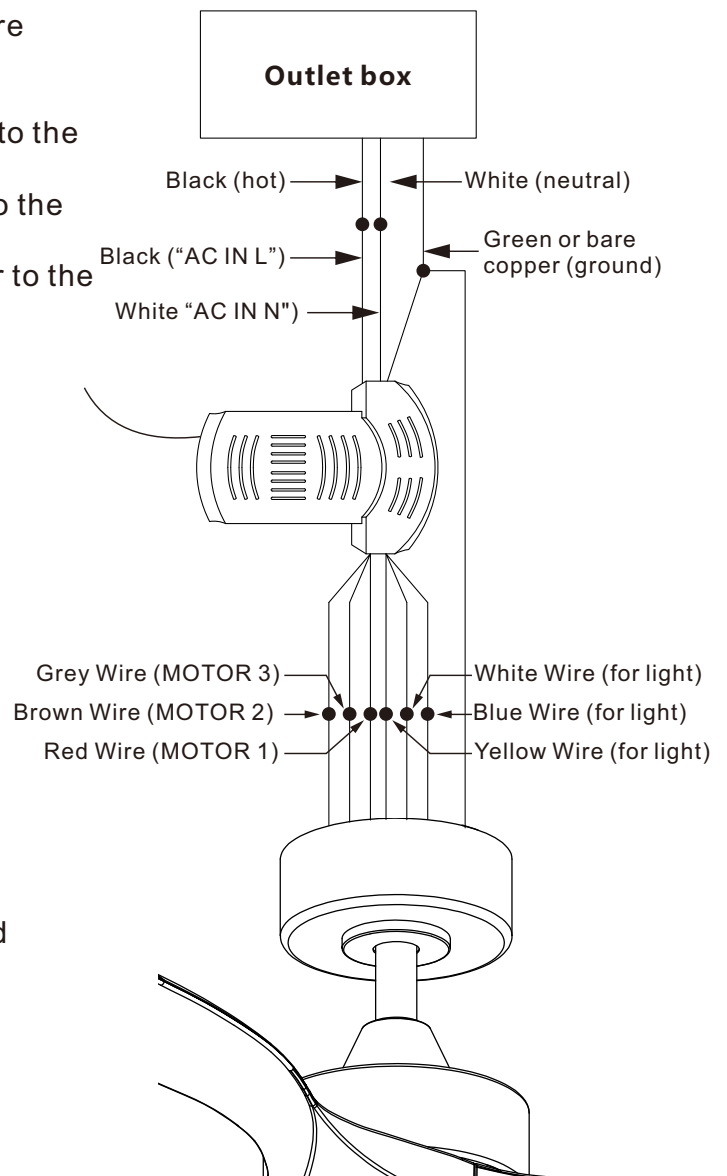

Figure 16
**Motor to Receiver Electrical Connections:**(Fig.16)
**Step 2.** (Fig.16) **Receiver to House Supply Wires Electrical Connections:** Connect the Black (hot) wire from the ceiling to the black wire marked "AC in L" from the receiver.
**Step 3.** (Fig.16) If your outlet box has a ground wire (green or bare copper) connect it to the fan ground wires and the receiver ground wire; otherwise connect the hanging bracket ground wire to the fan and the receiver ground wire. Secure the wire connection with a plastic nut provided. After connecting the wires, spread them apart so that the green and white wires are on one side of the outlet box and other wires are on the other side. Carefully tuck the wire connections up into the outlet box.